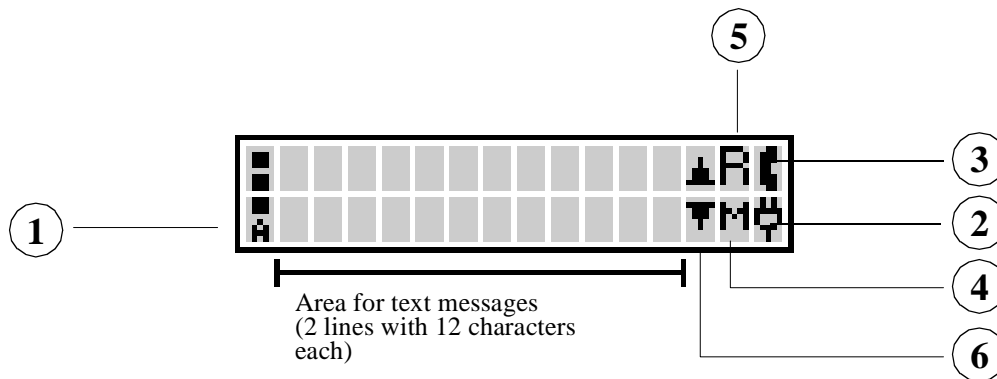

Fig. 6-1 Display structure
- permanently lit full battery symbol: powered by battery (see *Fig. 6-1 Display structure*)